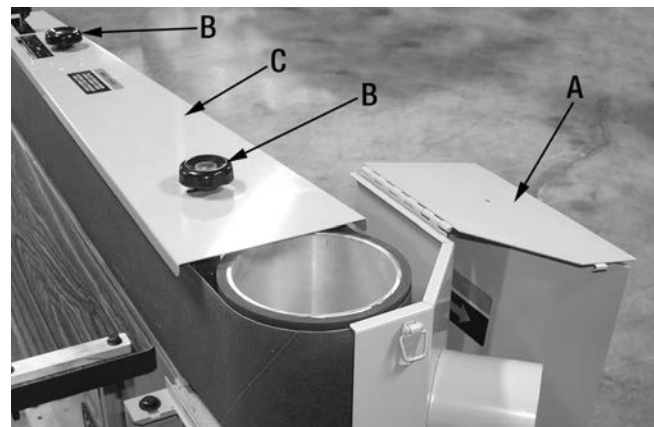

FIGURE 11
- 1) Open the right side safety guards (A) Fig.11 by unclipping the two retaining clips and flipping the safety guards backwards.
- 2) Loosen and remove the two lock knobs (B) and then remove the belt access cover (C).